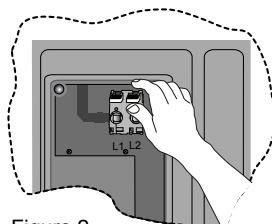

Figure 2
3. Grab one of the white levers. Push the lever upward to the open position, Figure 2. If opened correctly the lever will stay in place and remain open.